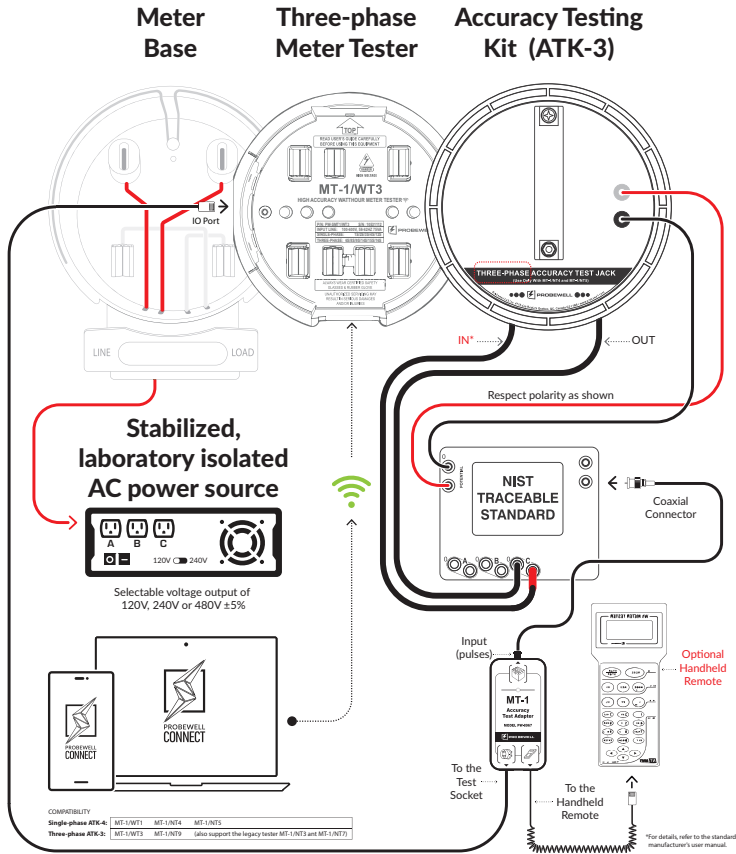

Fig. 3 – Test jack (ATK-3 or ATK-4) to Standard Connection
- Install the test jack on the front of the unit to be tested. Connect the current and voltage wires between the test jack and the standard while respecting the polarity (see Fig. 3). Refer to the Standard's manufacturer for details on how to connect the Aux. Power ports.